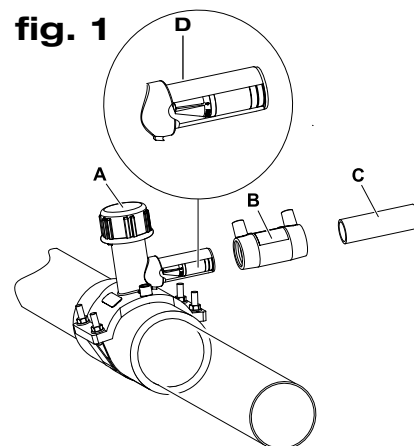

fig. 1
2. Connect the service line to the outlet of the Tapping-tee [A] (Fig.1)